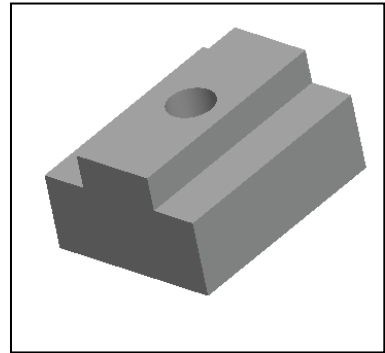

Figure 2: T-Nut
3. Depicted in figure 2 is one of the t-nuts that are to be placed in the frame.